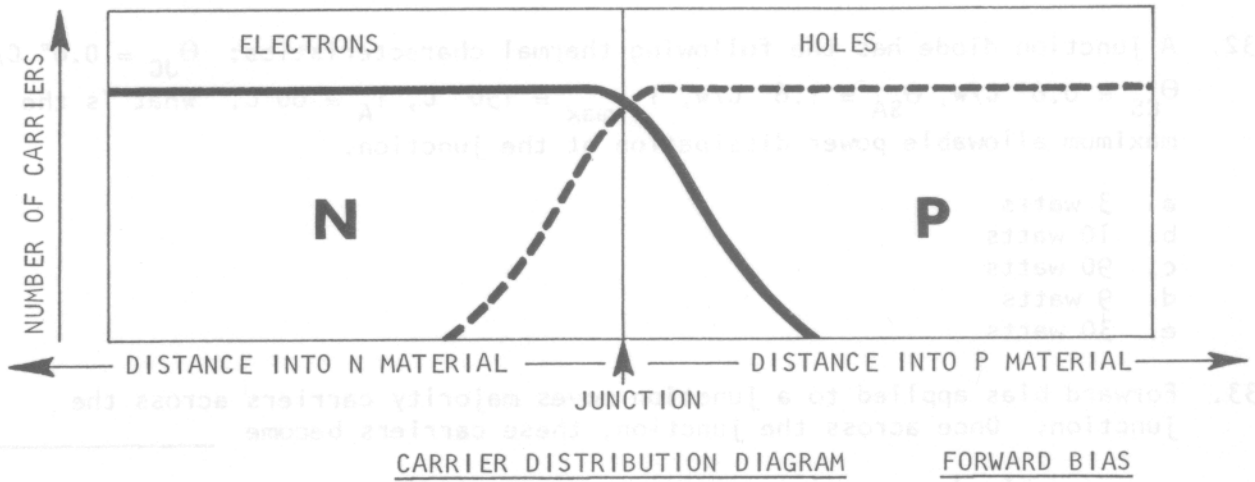
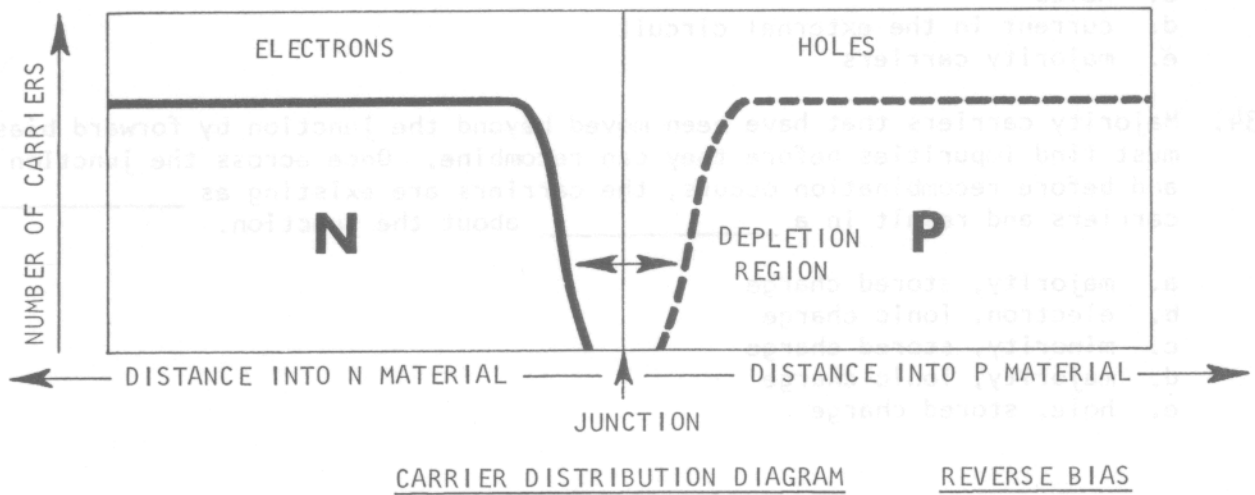

FIGURE 31B
FIGURE 31C
37. The solid and dashed lines in figure 31B show that more holes and electrons have been moved across the junction with forward bias applied. These carriers are existing as _____ carriers, and represent a _____ about the junction.
38. In figure 31C, the area about the junction is depleted of carriers as a result of applied reverse bias. To change from the condition in figure 31B to the condition in 31C, the _____ must be removed.